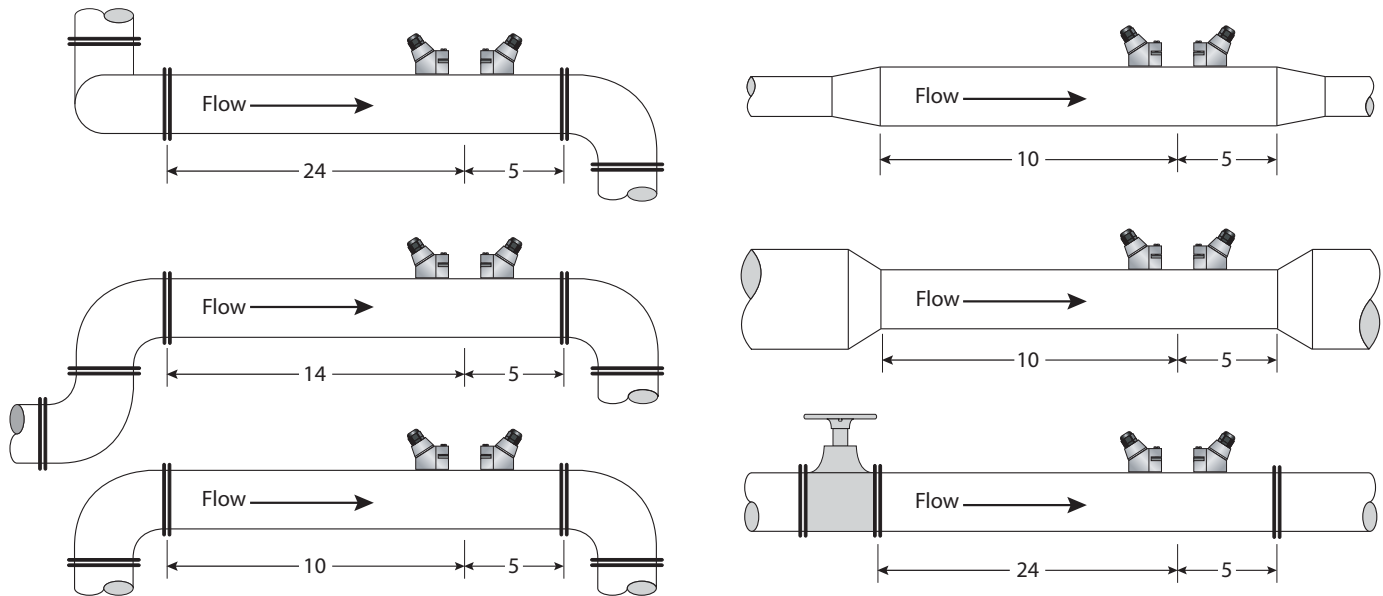

Figure 16: Piping configuration and transducer positioning
At this point, consider the transducer mounting location. A guiding principle is to mount the transducers on a section of pipe that has at least 10 pipe diameters upstream of the transducers and 5 pipe diameters downstream. See Figure 16 on page 18 for additional pipe length considerations.
- A piping system that contains lengths of straight pipe such as those described in Figure 16. The optimum straight pipe diameter recommendations apply to pipes in both horizontal and vertical orientation. The straight runs in Figure 16 apply to liquid velocities that are nominally 7 fps (2.2 mps). As liquid velocity increases above this nominal rate, the requirement for straight pipe increases proportionally.
Figure 16 shows the number of pipe diameters required downstream and upstream of the transducers for various piping configurations.